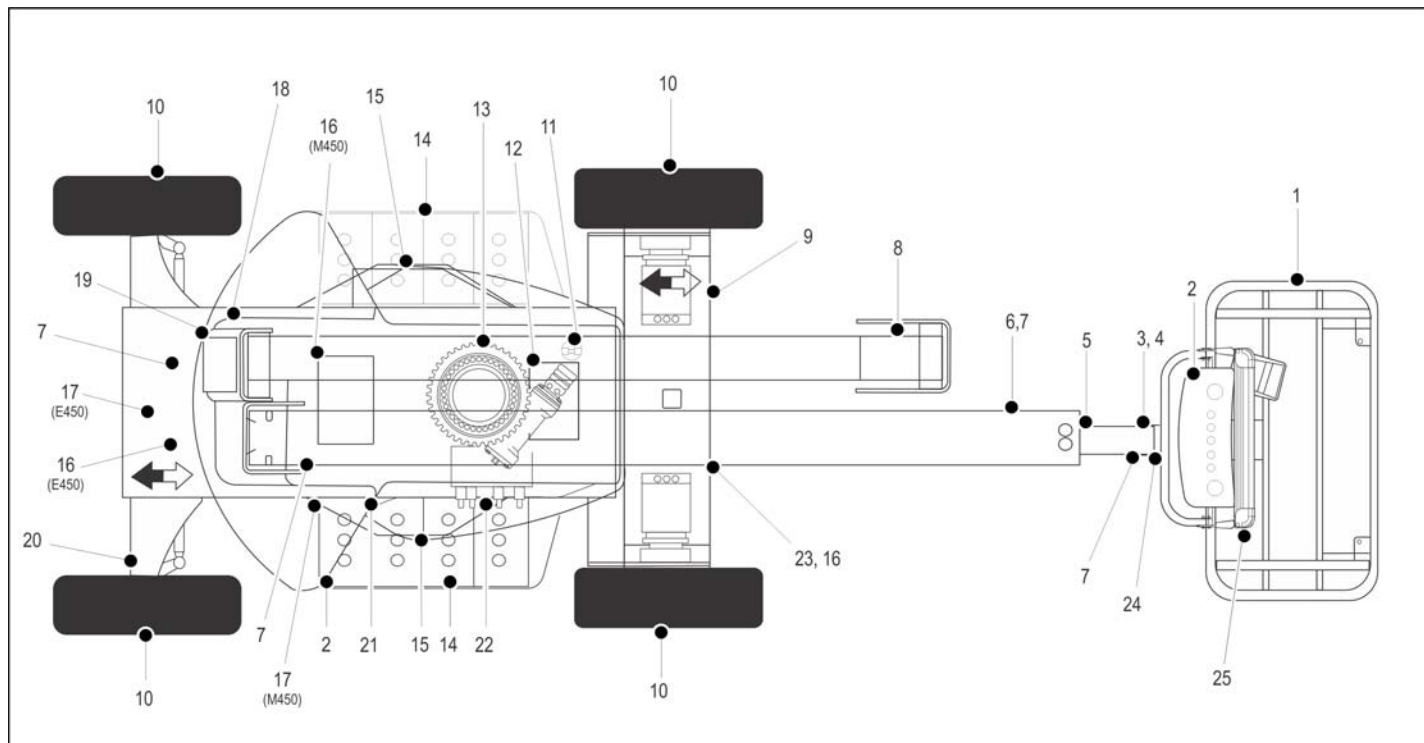

Figure 2-2. Daily Walk-Around Inspection - Sheet 1 of 3
5. **“Walk-Around” Inspection** – Refer to Figure 2-2., Figure 2-3., and Figure 2-4.